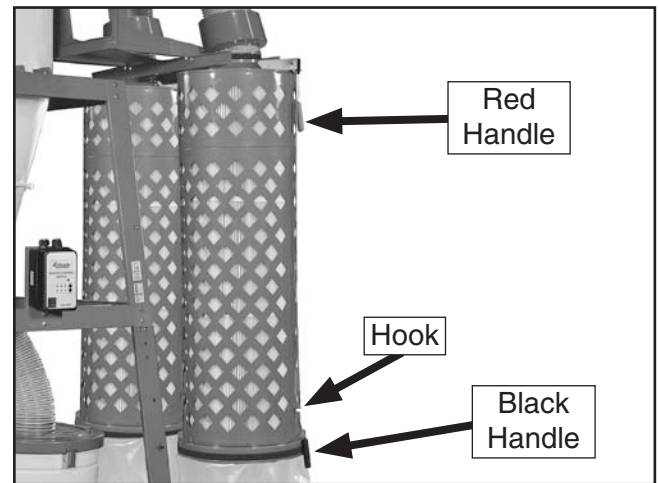

Figure 2. Black handle cable secured in the handle hook.
3. Pull the black handle all the way down and secure the cable into the handle hook at the bottom of the canister assembly, as shown in **Figure 2**, to hold it in place during the following steps.